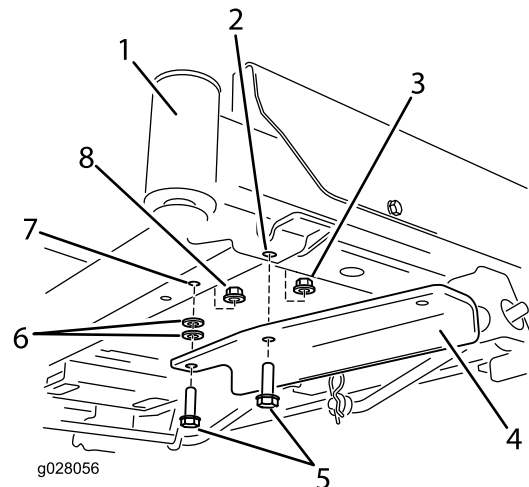

Figure 4
- For machines without a foot assist lift pedal: secure the bracket using 2 bolts (3/8 x 1-1/4 inches), 2 washers and 2 locknuts (3/8 inch) (Figure 4). One locknut is from loose parts and the other is reused from earlier removal.